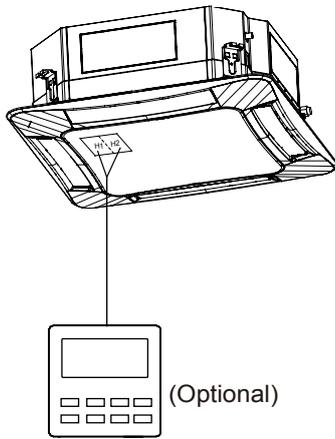
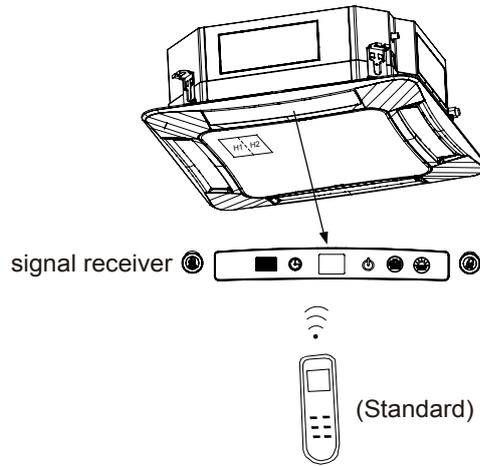

Fig 5.4.1
Fig 5.4.2
- 1) Wired controller (standard) is shown as Fig.5.4.1, wireless controller (optional) is shown as Fig.5.4.2, signal receiver is provided with panel as standard accessory.